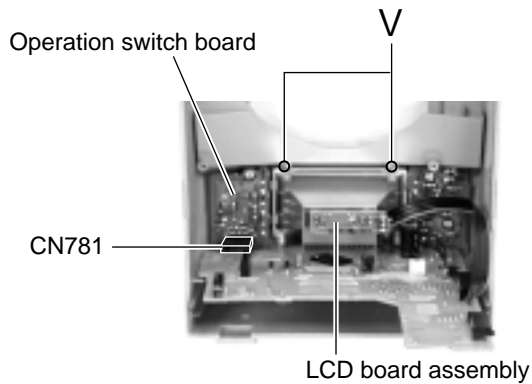

Fig.26
■ **Removing the LCD board assembly (See Fig.26)**